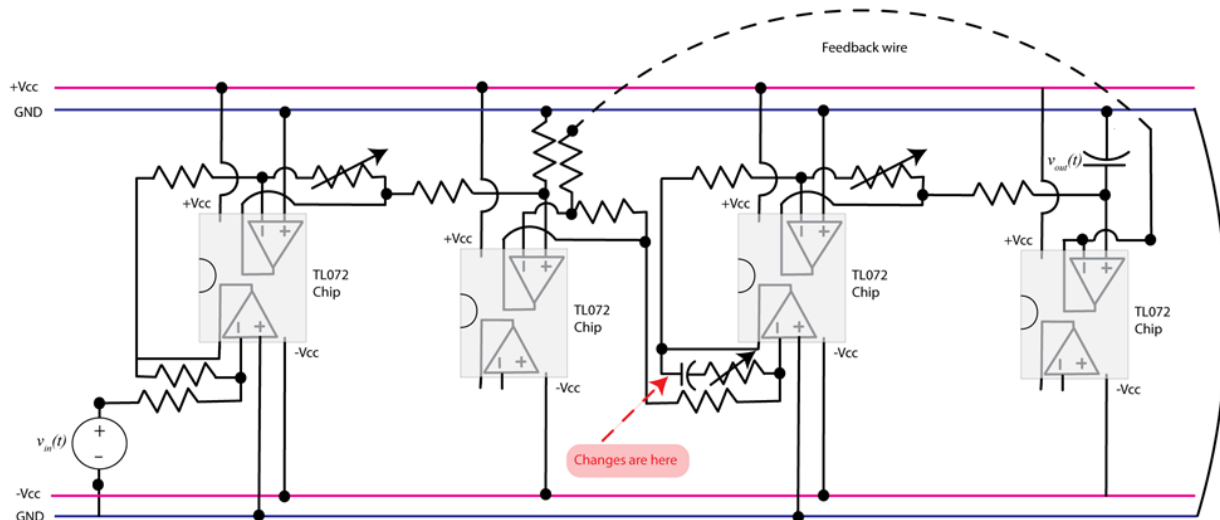

Figure 15: PI Controller Schematic
1. In this part, you will change the proportional controller to a proportional plus integral controller to determine how it affects the first order plant. This requires only slight modification in the circuit to make it look like Figure 15.
- Remove the  $1\text{ k}\Omega$  feedback resistor between pins 1 and 2 on the proportional controller with a  $1\text{ }\mu\text{F}$  capacitor in series with a variable resistor (see Figure 15).